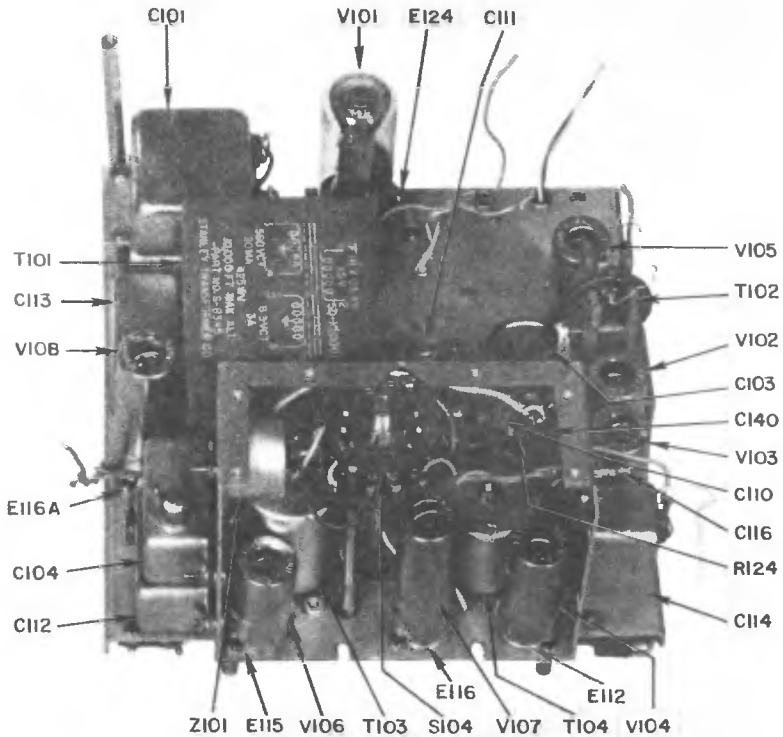

Figure 6-1. Chassis Assembly, Unsandwiched
Figure 5-2 shows the locations of the electron tubes as seen from the bottom of the chassis and Figure 6-1 shows the locations from the top of the chassis. Tubes V104, V106 and V107 are located behind an end shield (Fig. 5-3) which must be re-
- Remove one hex nut securing Z101, Figure 6-1.
Remove the tube access shield, Figure 5-3. This will expose the parts shown in the lower portion of Figure 6-1, except that the panel will still be in place.
1. UNSANDWICHING. - Review of Subparagraphs c thru k above indicates that many of the major parts of the ZM-11/U are accessible without separating the panel assembly from the chassis assembly as has been done in the companion views, Figures 6-1 and 6-2. Careful study of other situations should be made before attempting this unsandwiching operation for, as will be seen from the disconnect schedule below, many connections must be disconnected before the units may be separated.